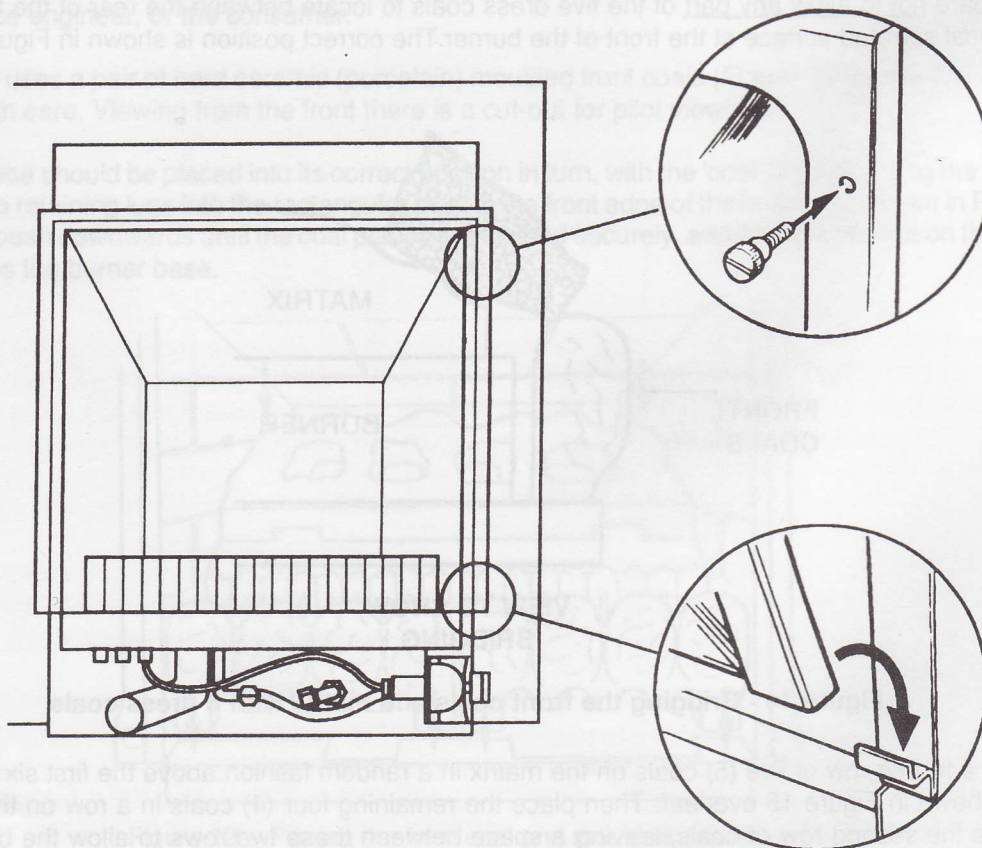

**Figure 15 - Placing the remaining dress coals in two rows of five (5) and four (4)**
Place a further row of five (5) coals on the matrix in a random fashion above the first six coals previously placed, as shown in Figure 15 overleaf. Then place the remaining four (4) coals in a row on the surface of the matrix above the second row of coals, leaving a space between these two rows to allow the best flame effect. Ensure a generally even spacing between all the coals for the best effect.
The fourteen (14) individual dress coals (Figure 15 Page 11) should be removed, noting their approximate positions to facilitate replacement, and then placed on a piece of newspaper. Any deposits can be carefully removed from the surface of the coals using a soft brush (such as a paint brush).